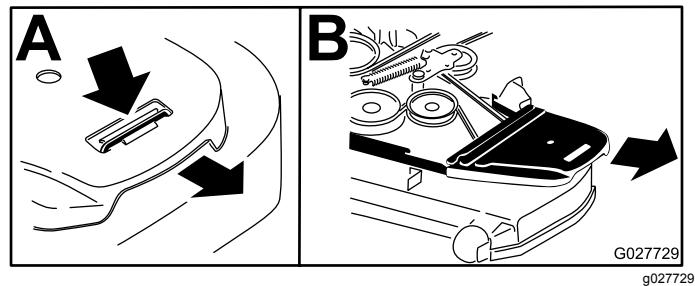

Figure 73
4. Remove the belt covers (Figure 73).